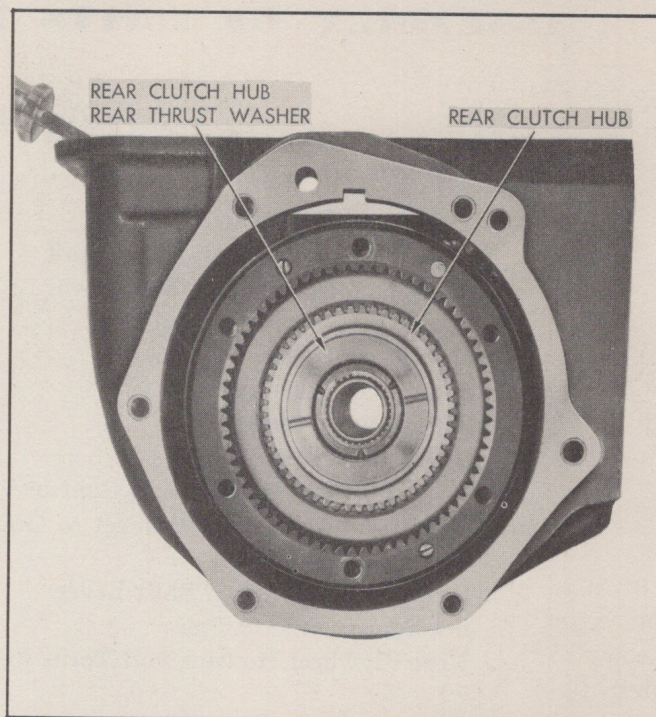

Fig. 291—Rear Clutch Hub Rear Thrust Washer Installed
3. Position rear clutch hub rear thrust washer in the counterbore of rear hub and retain with petrolatum (Fig. 291).